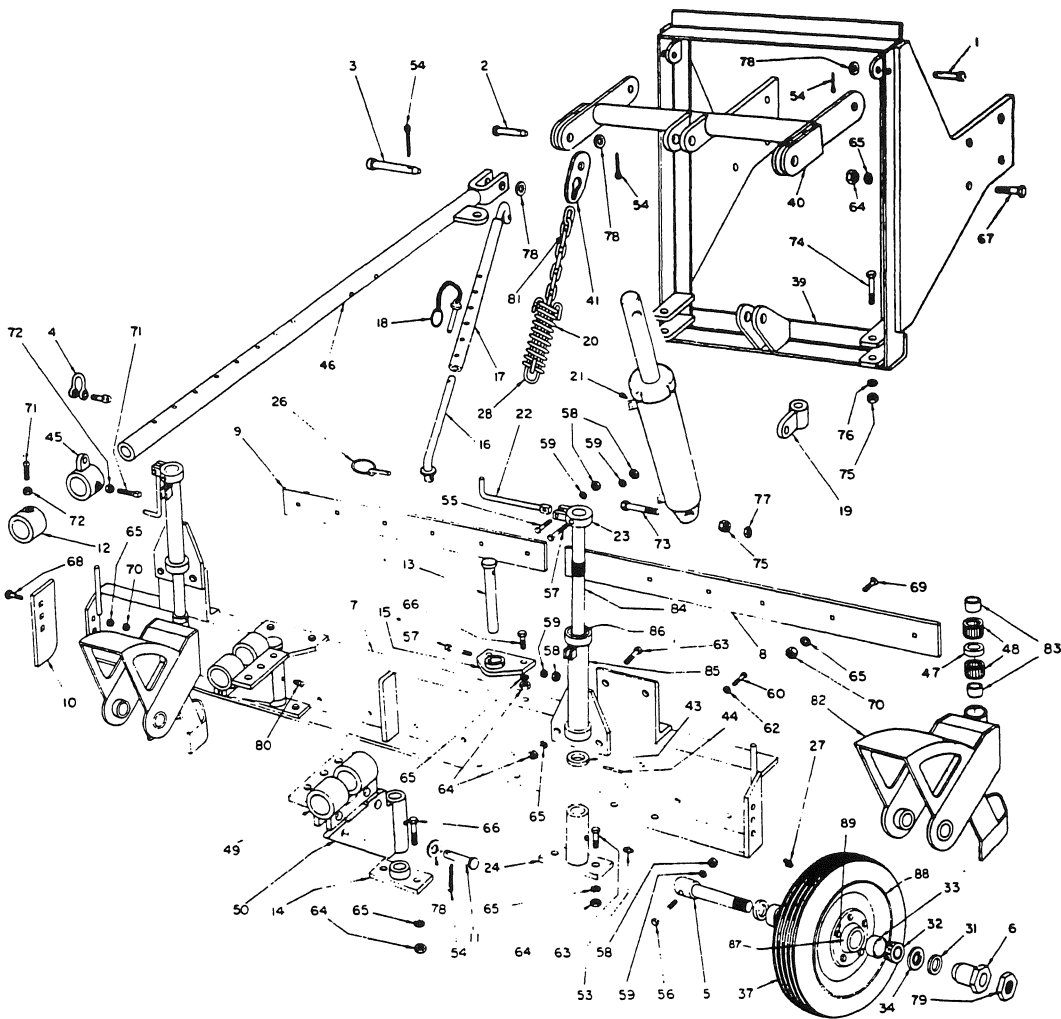

Figure 13
WINDROW ELIMINATOR1. Removal and Disassembly (Fig. 13).**WARNING:**
- a. Remove the pal nuts (79), adjusting sleeve (6) and spacer (31).
- b. Remove the hexagon head bolt (56), nut (58) and lockwasher (59) retaining the axle (5). Remove the axle, spacer, swivel housing (82) and wheel.
- c. Remove and inspect the two seals (34), bearing cones (32) and bearing cups (33) for serviceability. Replace faulty bearing and seals.
- d. Using a suitable drift, carefully remove the needle bearing inner races (83) and cages (48), together with the spacer (47). Inspect the bearings for serviceability. Replace faulty bearings.
a. Lubricate the bearing cones (32) and bearing cups (33) with grease. Carefully install the bearings into the wheel hub bore, followed by the two seals (34).
b. Place the wheel at its position in the swivel housing (82), and install the axle (5) and spacer (31), taking care not to damage the seals. Retain the axle with the hexagon head bolt (56), nut (58) and lockwasher (59).
c. Install the spacer. Install the adjusting sleeve (6), and tighten sufficiently to maintain free-running of the wheel bearings; then install and tighten the pal nut (79).
d. Using a suitable drift, install the needle bearing inner races (83) and cages (48), together with the spacer (47).
12. Assembly and Installation (Fig. 13). To assemble the wheel axle and swivel housing assemblies, proceed as follows:
KEY TO FIG. 13